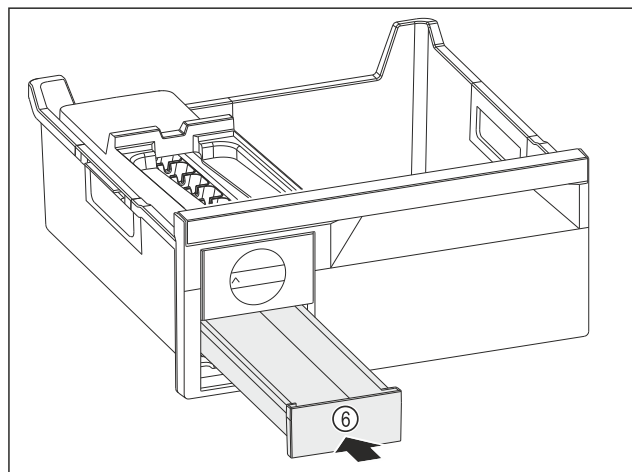

Fig. 101
- Insert the ice cube drawer Fig. 101 (6).